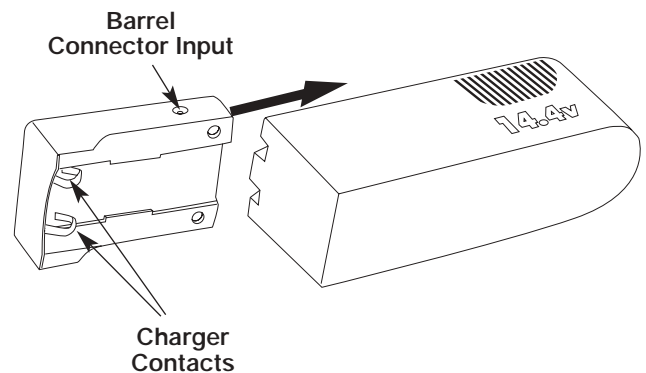

Fig. 2
3. Slide the charger onto the battery, from the battery's square end (Fig. 2).
4. Push hard to snap the battery into place. Be sure the contacts on the battery engage properly with the contacts on the charger (Fig. 2).